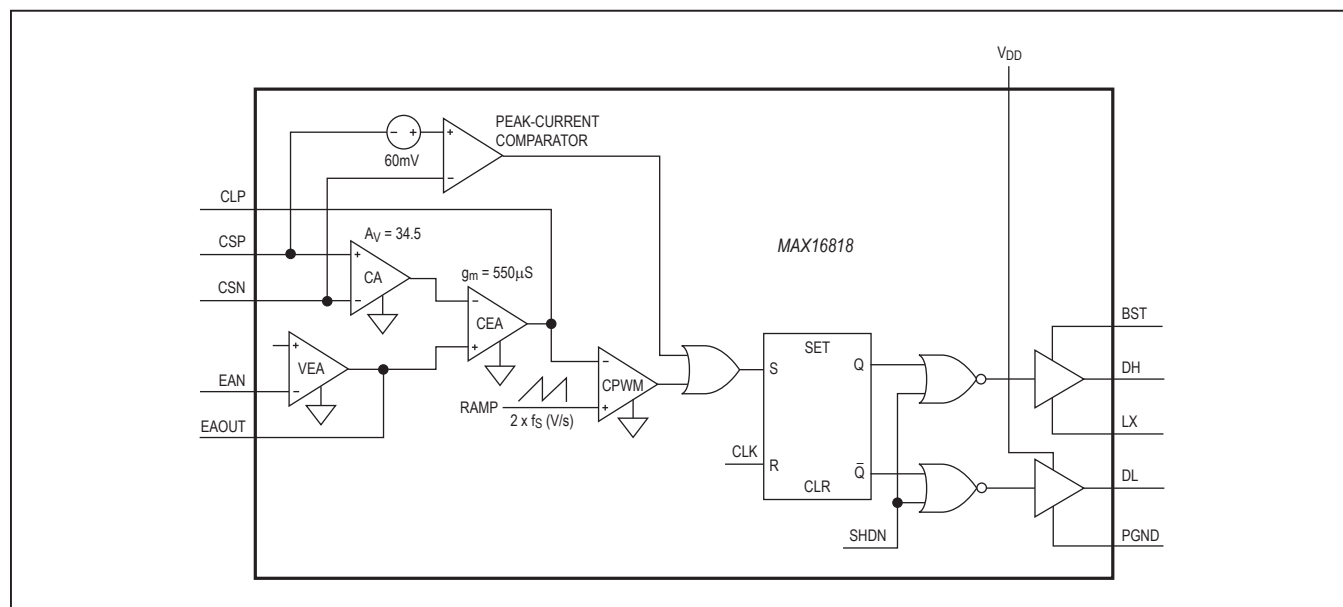

Figure 8. MAX16818 Phase Circuit
The peak-current comparator provides a path for fast cycle-by-cycle current limit during extreme fault conditions, such as an inductor malfunction (Figure 8). Note the average current-limit threshold of 26.9mV still limits the output current during short-circuit conditions. To prevent inductor saturation, select an inductor with a saturation current specification greater than the average current limit. Proper inductor selection ensures that only the extreme conditions trip the peak-current comparator, such as an inductor with a shorted turn. The 60mV threshold for triggering the peak-current limit is twice the full-scale average current-limit voltage threshold. The peak-current comparator has only a 260ns delay.
The PWM comparator (CPWM) sets the duty cycle for each cycle by comparing the output of the current-error amplifier to a 2V_{P-P} ramp. At the start of each clock cycle, an R-S flip-flop resets and the high-side driver (DH) goes high. The comparator sets the flip-flop as soon as the ramp voltage exceeds the CLP voltage, thus terminating the on-cycle (Figure 8).